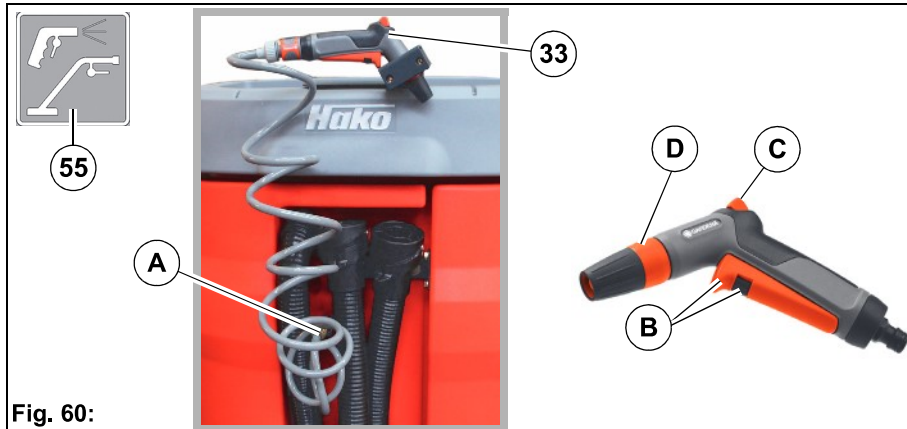

Fig. 60:
1. Connect the hose to the water connection of the machine **Fig. 60-A**.